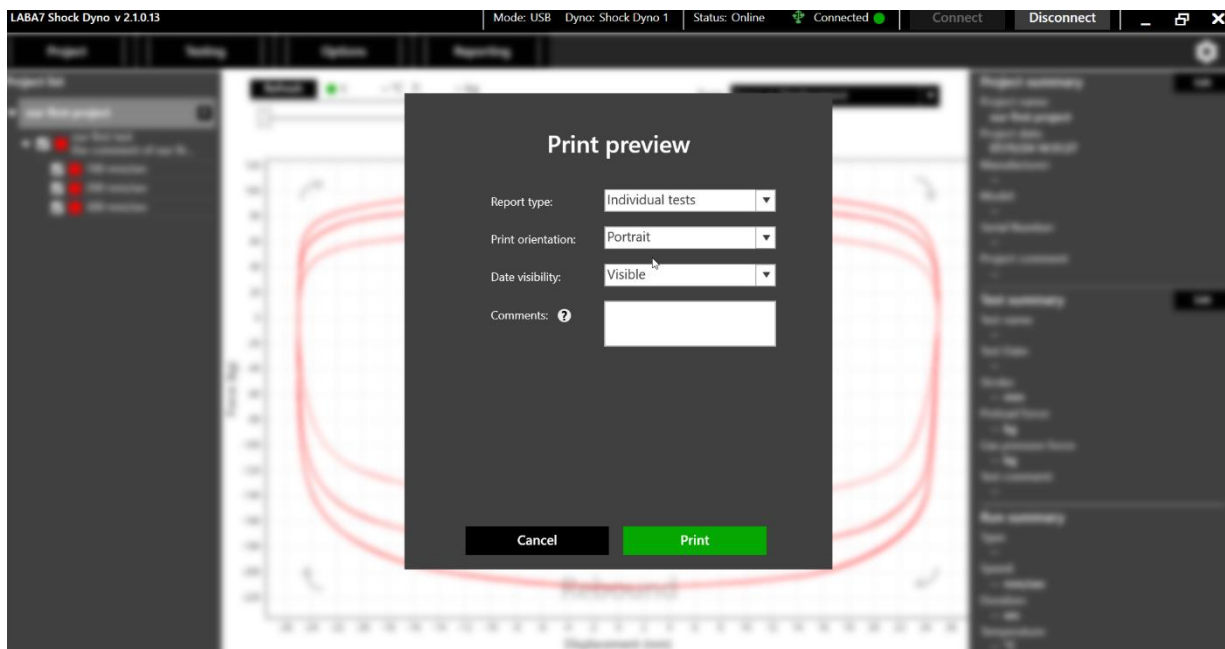

Figure 39
2. Press “reporting” (fig.39).